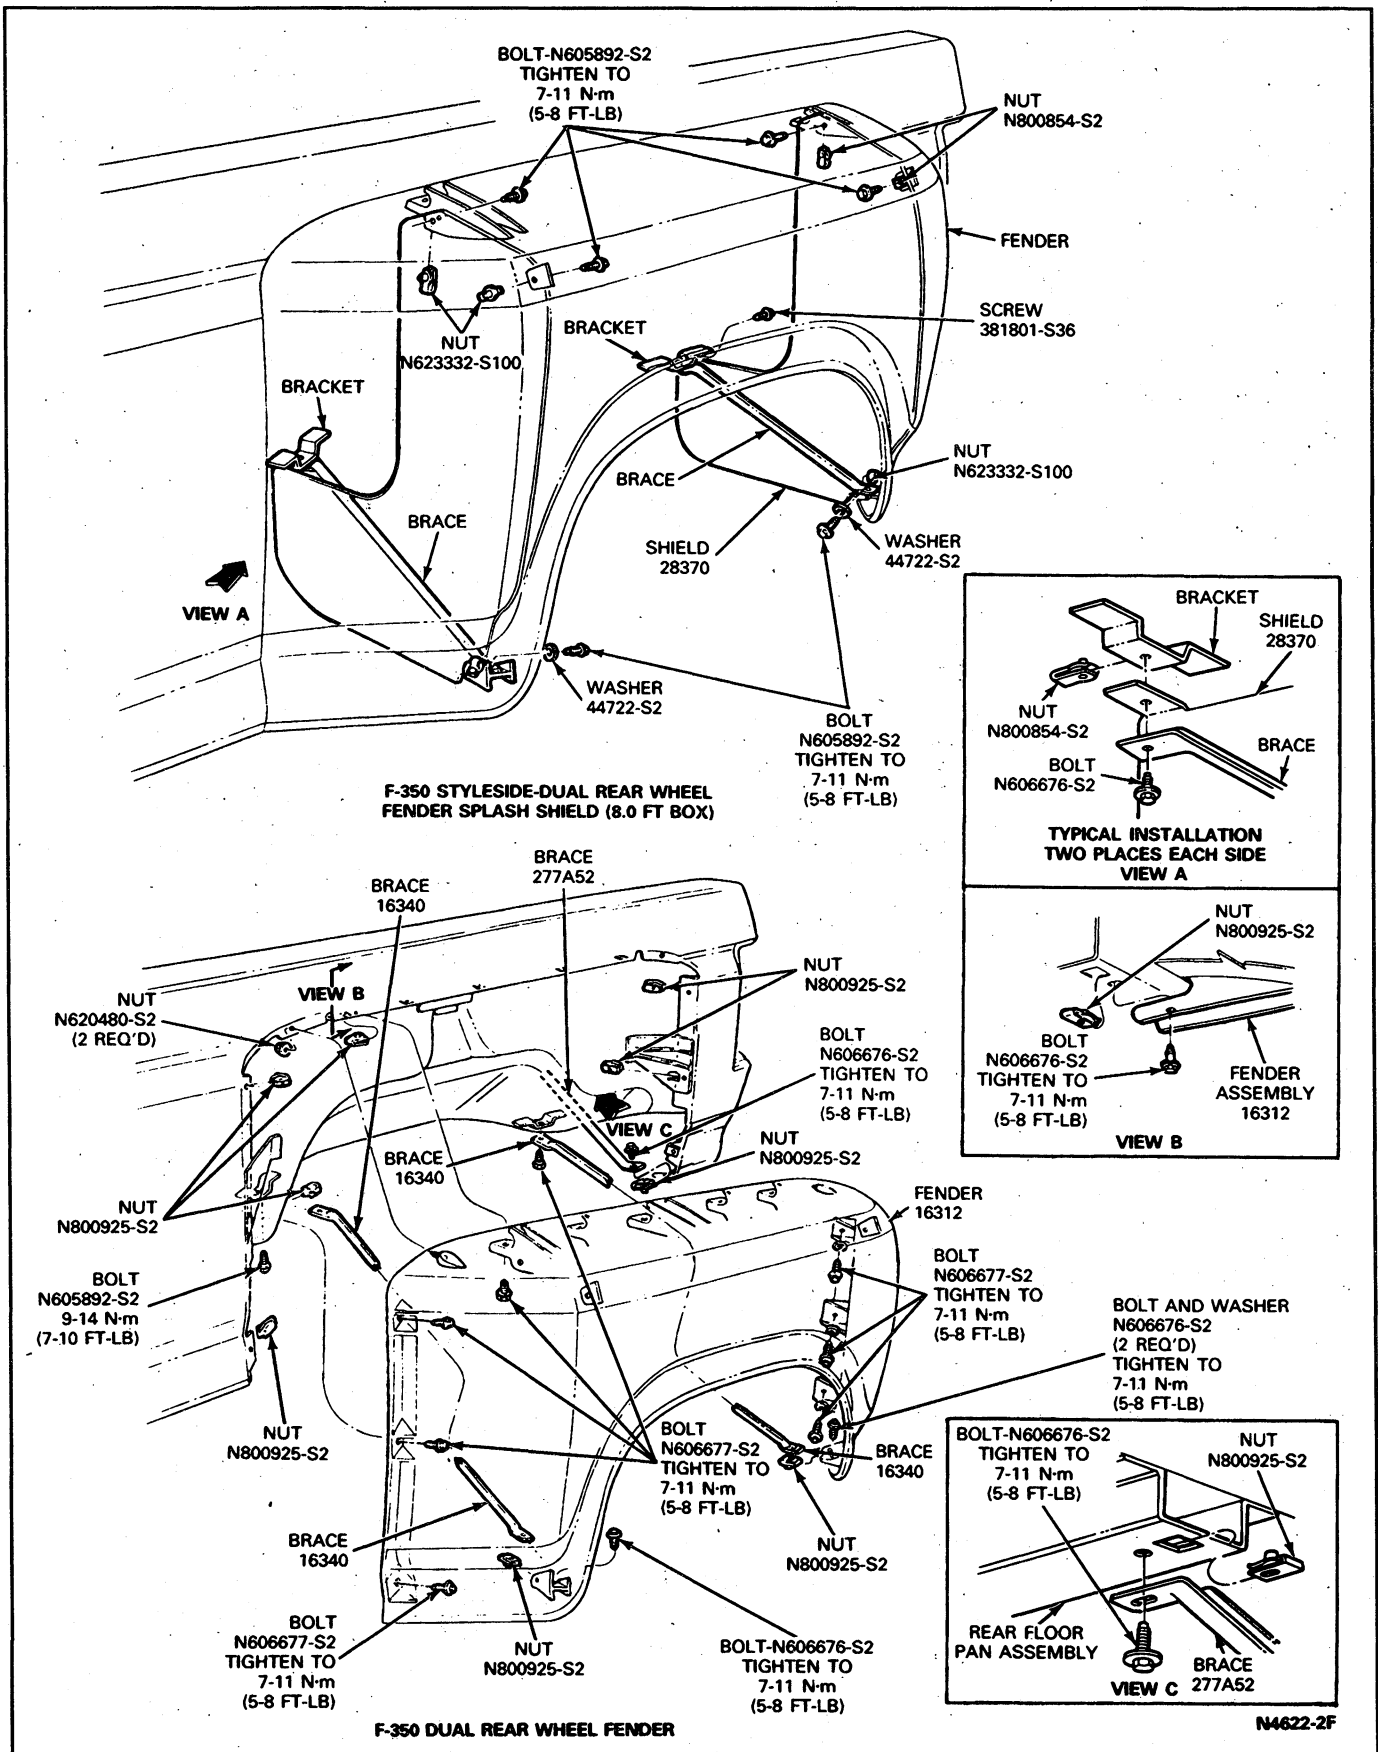

FIG. 4 Dual Wheel Rear Fender—F-350
Refer to Fig. 4.
- Remove two upper and one lower splash shield-to-fender attaching nuts and bolts (Fig. 4).
- To install, reverse Steps 1 through 4. Tighten all attaching nuts and bolts to specifications (Fig. 4).